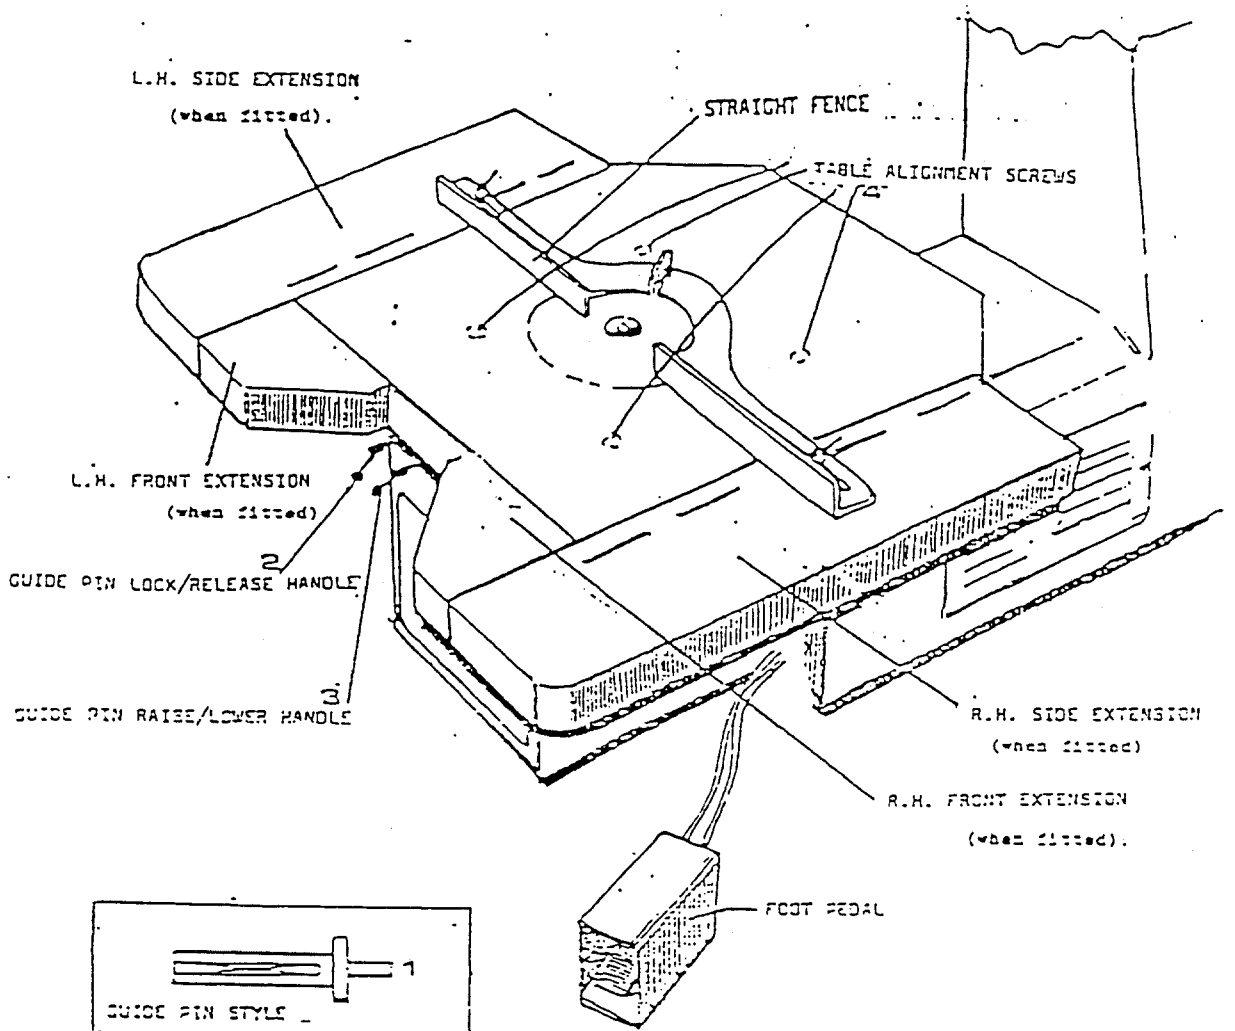

FIG. 10 LAYOUT OF PLAIN TABLE UX 1
4.6 PLAIN TABLE MODEL UX 1 (See Fig. 10)